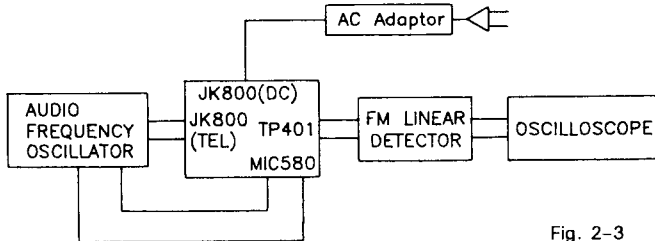

Fig. 2-3
- The connection of unit is shown in Fig.2-3.